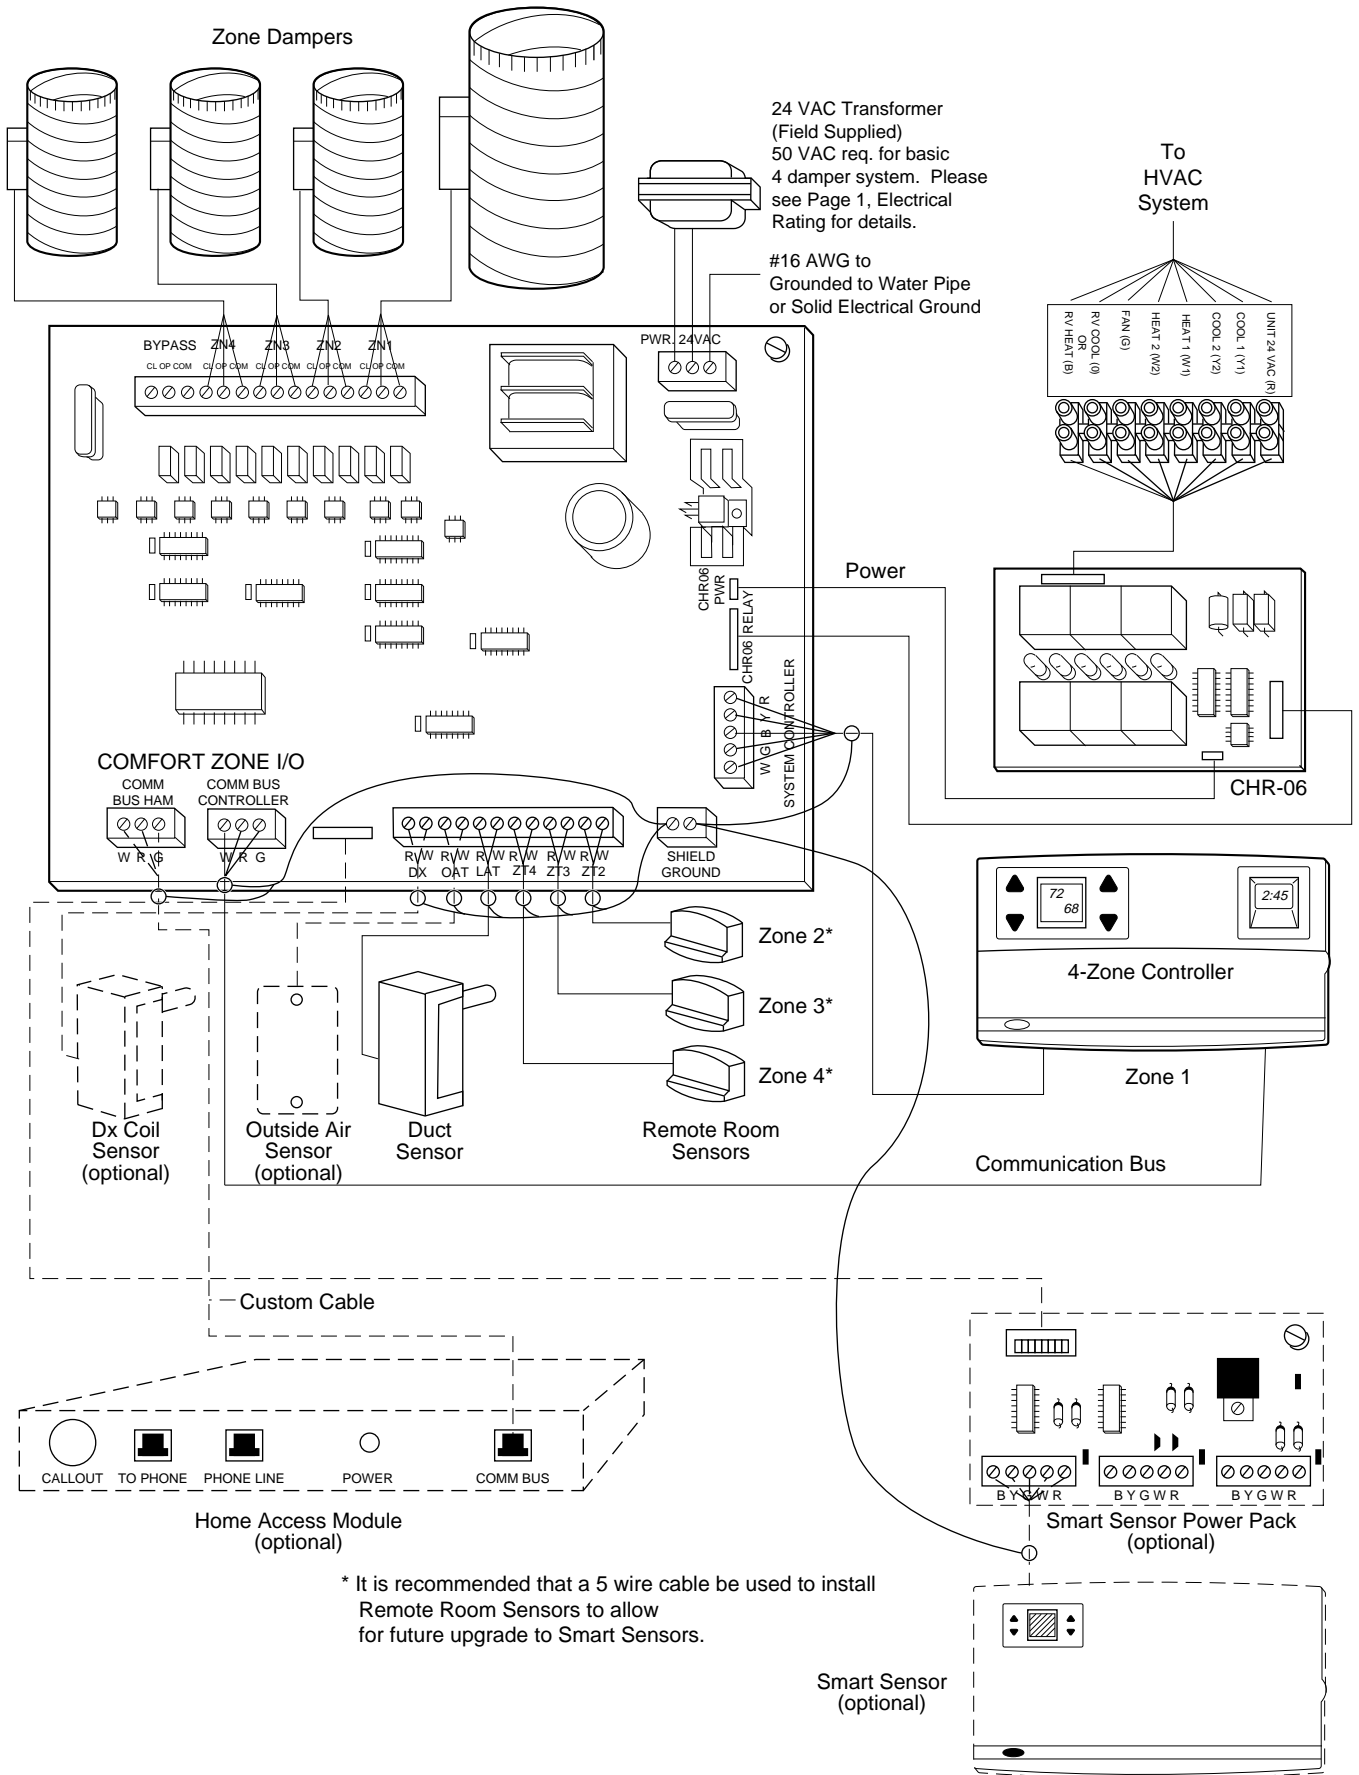

Fig. 16—Comfort Zone System Wiring Diagram
6. Connect sensor to 2-wire conductor using provided wire nuts. (See Fig. 16 for connection to Comfort Zone Center.)
The Dx coil temperature sensor is recommended for use in heat pump with fan coil applications only. The sensor should be installed between Dx coil and electric heaters. It measures Dx coil temperature and adds extra protection for high/low temperature limits. The range is from 30°F to 180°F. The Dx coil sensor interfaces to Comfort Zone Center on terminal TB-1. (See Fig. 16.) To activate Dx coil temperature sensor turn T-27 on. When activated, the Dx coil sensor has built-in LAT setpoints of 50°F and 45°F in the cooling mode, and 105°F and 110°F in the heating mode. This is non-adjustable.
5. Connect the 3 wires for communication bus and the 5 wires for controller to base plate terminal screws. (See Fig. 16.) Ensure that there are no excess or bare wires exposed.